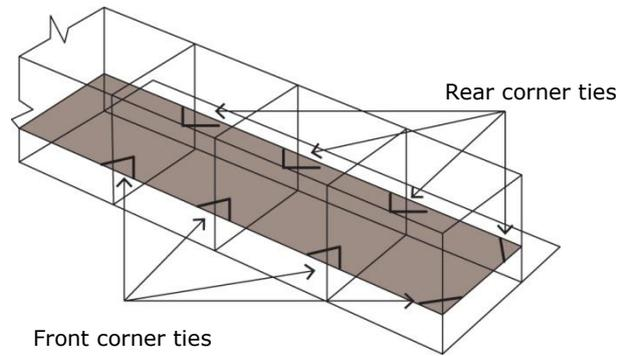

**Figure 2 – Positive connection between Tensar geogrid and facing unit using bodkin joint**
13. Connect the tail at the base of the facing units to the Tensar geogrid using the polymer bodkins provided. The Tensar geogrid should run all the way through to the front of the unit with the bodkin joint formed at midpoint of the tail (refer to Figure 2).